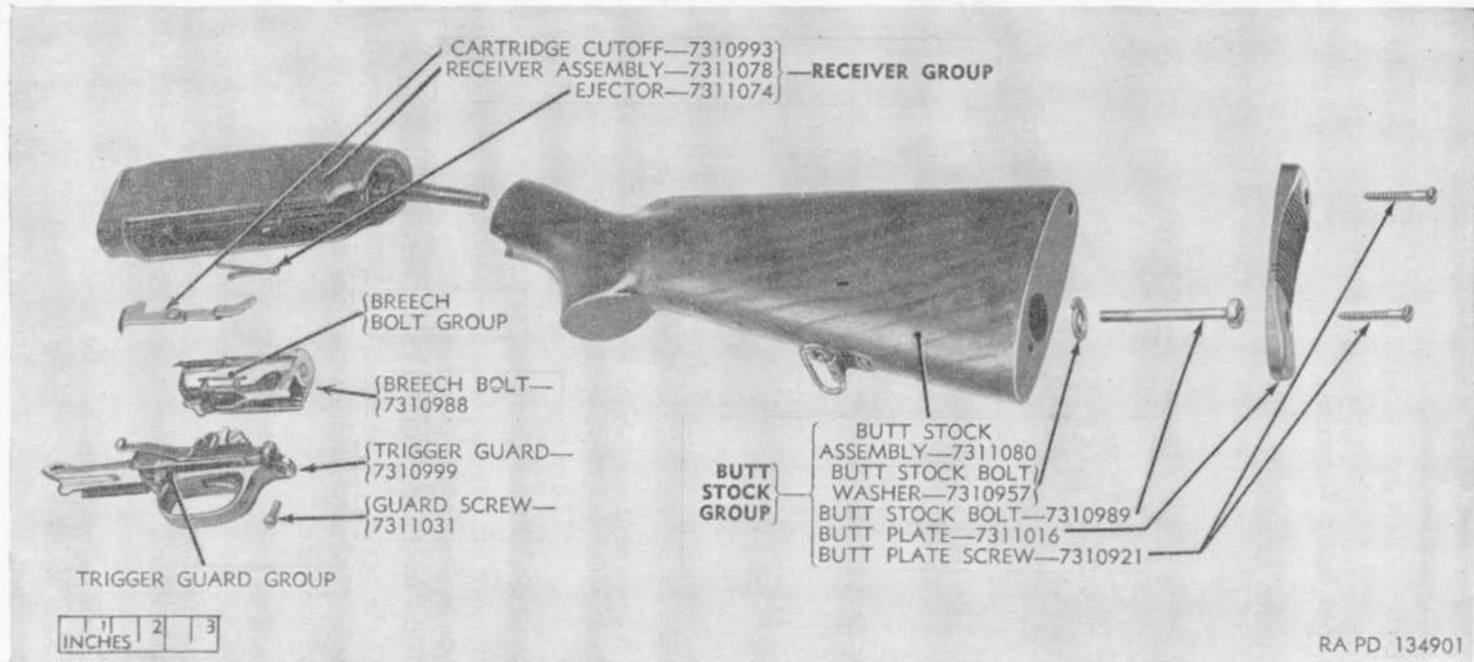

Figure 17. Breech end of Winchester M12—partially exploded view.
- (2) Drive the bayonet band assembly off to the front and remove from barrel muzzle.
- (3) Push action slide handle fully forward to lock action.
- (4) Turn magazine tube one-quarter turn clockwise to disengage interrupted threads on tube from those on receiver.
- (5) Withdraw magazine and action slide group from receiver.
- (6) Turn the barrel group one-quarter turn clockwise and withdraw from receiver.
b. *Trigger Guard Group* (fig. 17).
- (1) Unscrew the guard screw from rear end of trigger guard group.
- (2) Pull trigger guard group upward and to the rear out of receiver.
c. *Breech Bolt Group* (fig. 17).
- (1) Push breech bolt into its forward position.
- (2) Pry out ejector from left inner wall of receiver.
- (3) Pry out cartridge cutoff from the lower portion of the left inner wall of the receiver.
- (4) Rotate the rear end of the breech bolt retaining lever, positioned in the left face of the breech bolt, with a screwdriver or other suitable tool. Then slide the breech bolt group to the rear and lift from receiver.
d. *Receiver and Butt Stock Groups* (fig. 17).
- (1) Remove butt plate screws and butt plate.